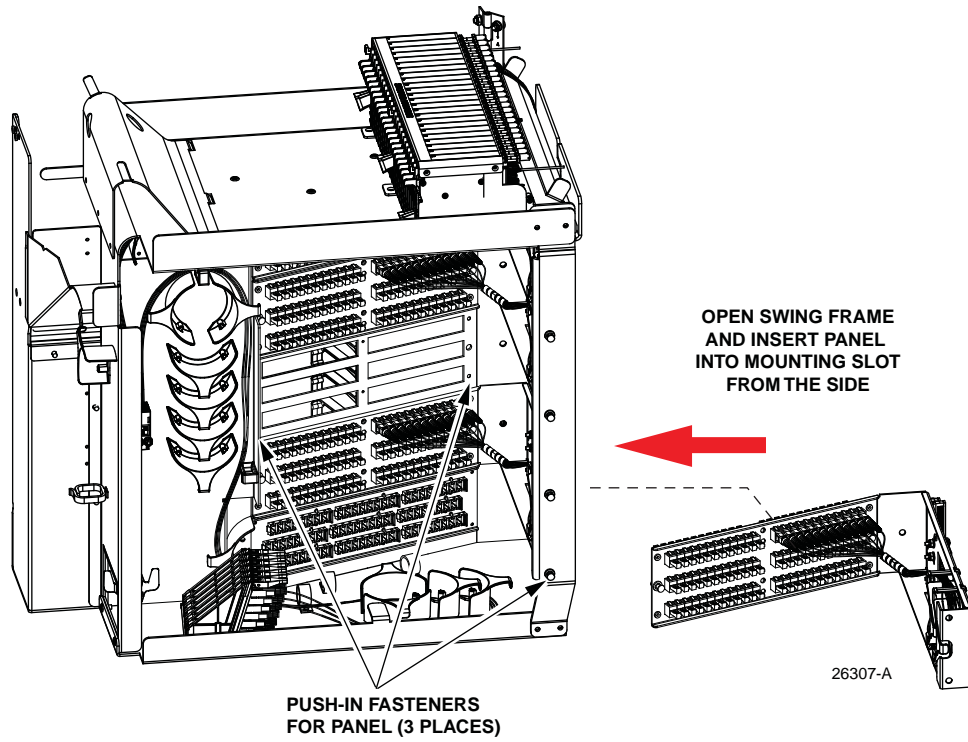

Figure 25. Placing Distribution Panel In Position For Mounting
9. Place the distribution panel in position for mounting on the **rear** side of the swing-out assembly as shown in Figure 25. Use the plastic push pins provided to secure the distribution panel to the rear side of the swing-out assembly.